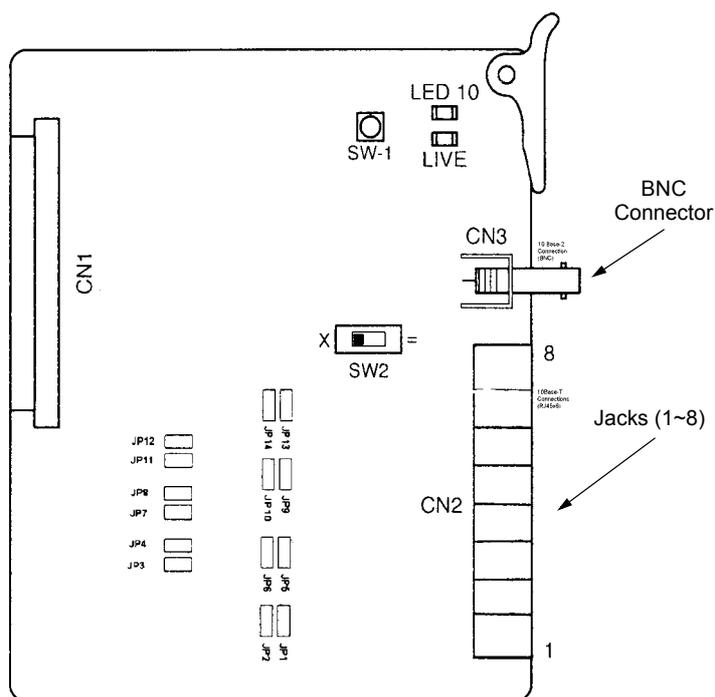

Figure 5-30 VDH2(8)-U13 ETU Connections
- ⓘ Normally the 10Base-2 cables connected to the VDH2(8)-U13 units cannot be directly connected to another HUB or to a LAN terminal. A set of jumpers is provided on the VDH2(8)-U13 to turn off the station abilities for ports 1~7. In this case LAN terminals can be connected directly to the VDH2(8)-U13 ETU. Refer to *Figure 5-30 VDH2(8)-U13 ETU Connections* for the layout of jumpers on the KTU.
- ④ The VDH2(8)-U13 ETU can be used with 10Base-2 and 10Base-T cables. VDH2(8)-U13 ETU HUBs can be cascaded using 10Base-2 cables. The 10Base-2 connector can also be used to connect the VDH2(8)-U13 ETU to a LAN backbone. (Refer to *Figure 5-30 VDH2(8)-U13 ETU Connections.*)